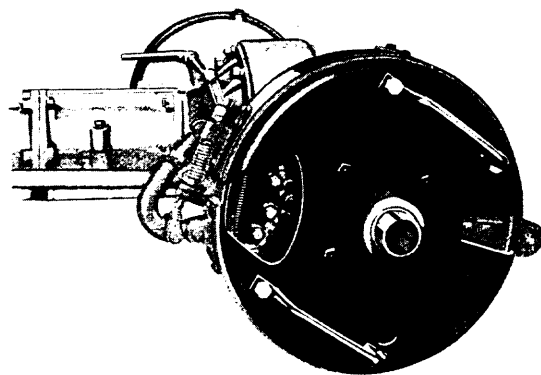

Fig. 98
adjusting brakes Tool 618 will be found of great convenience. Remove axle shaft, wheel and bearings, slide the gauge into position on the axle as shown in Fig. 98. The gauge represents, and is the same size as, the brake drums. Lubricate all clevis pins and other moving parts in the brake mechanism and work oil in by moving foot pedal and hand lever back and forth several times. Remove cotter pin from the adjusting screw (11) and screw clockwise until the brake lining at this point just clears the drum. Replace cotter. Loosen the adjusting nuts (8) and (9) under the stop (7), using the pair of special wrenches in the tool kit, and screw down until the lower half of the brake band comes up and just clears the drum. Then tighten both nuts securely. Next adjust nut (4); turn by half revolutions in a clockwise direction until the top half of the band just clears the drum. It should now be possible to revolve the drum without any binding or dragging of bands. Pull forward on link (5) until the end of screw (6) is approximately $\frac{1}{4}$ " away from the stop. If adjustment is correct you will be unable to move drum with the hands. When the brake is fully applied by pushing down hard on the foot pedal the shortest distance from center of pin (13) in lever (10) to the drum should be approximately $2\frac{3}{16}$ ". The foot pedal pad when completely depressed with the brake tight on the drum must be at least 2" from the floor board. If it is less than this figure the pull rod between the pedal and intermediate brake cross shaft may be shortened to correct this condition.